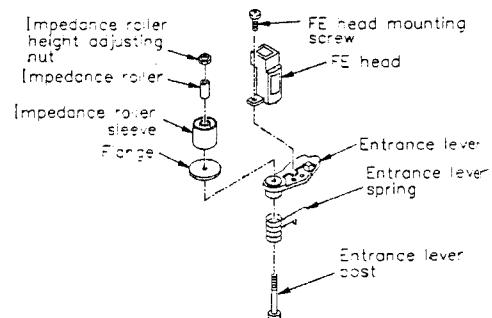

Fig. 4-3-3 Replacement of No. 3 guide and FE head
2. Remove the FE head mounting screw and the FE head can be removed. (Fig. 4-3-3)
5. Confirm whether the associated adjustments is not upset, starting check from the linearity adjustment, item 4) of the tape transport adjustment. (Refer to item 1-5-4 (3).)
1. Remove the impedance roller height adjusting nut and replace the impedance roller as shown in Fig. 4-3-3. Before removing the nut, note the number of threads or height exceeding the surface of the nut.
3. After replacement of the impedance roller, perform the adjustment from the linearity adjustment, item 4) in the tape transport adjustment. (Refer to item 1-5-4 (3).)
(5) S, T-guide rollers replacement